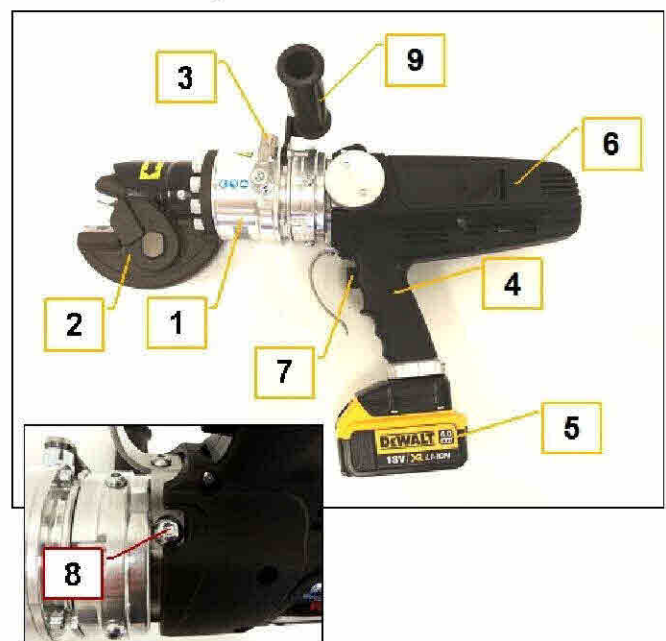

Fig.1
Fig. 1 shows the main parts of the machine fitted with a motor, in particular:
Adjusting the head with the tool disconnected and not working. Hold the grip (ref. 1 in fig. 4A) and handle (ref. 4 in fig. 1) firmly, without touching the on/off button, and move the head to the required position.